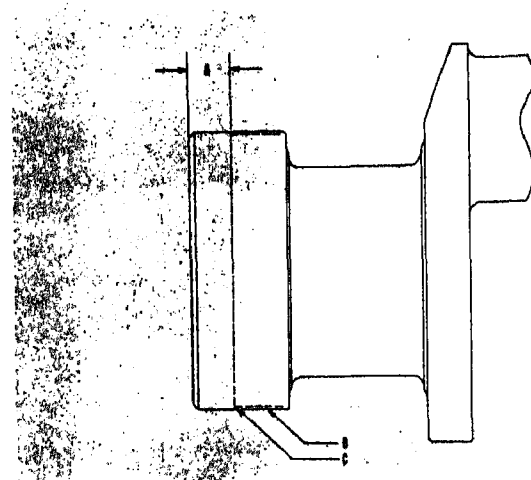

Fig. 1-4-8. Rear seal area regrind specifications
a. If the rear oil seal running area of the rear flange requires more than 0.003 in. [0.0762 mm] grinding, the oil seal area may be step-ground to a maximum of 0.010 in. [0.2540 mm] under the new crankshaft specifications within the distances "B", Fig. 1-4-8. The ledge area "C" must be chamfered 0.040/0.060 in. [1.0160/1.5240 mm].
12. The flywheel pilot or flywheel adapter pilot diameter (0.40 in. [10.1600 mm] in width area "A" Fig. 1-4-8.) on all crankshafts must not exceed 0.003 in. [0.0762 mm] undersize.